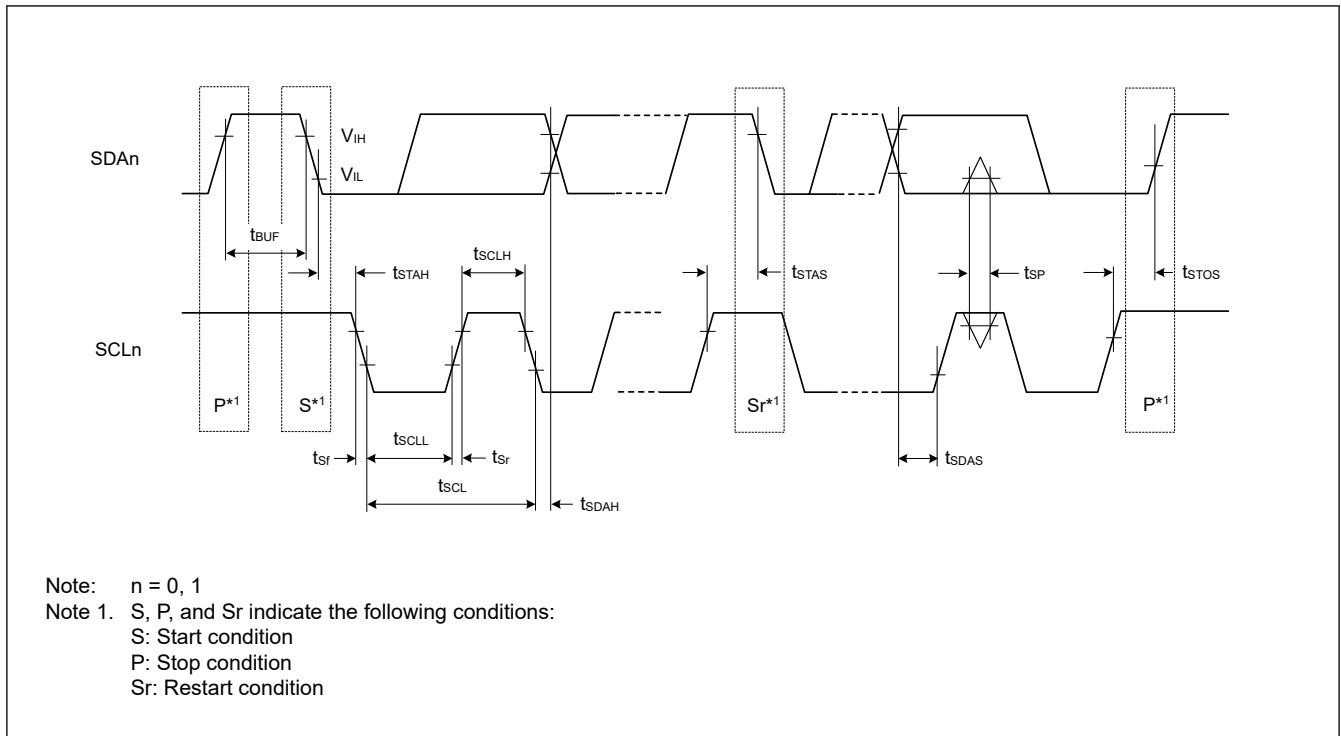

Figure 2.35 I²C bus interface input/output timing
| IIC (standard mode, SMBus) | SCL input cycle time                                               | $t_{SCL}$  | $6 (12) \times t_{IICcyc} + 1300$                   | —                         | ns   | Figure 2.35     |
| IIC (Fast mode)            | SCL input cycle time                                               | $t_{SCL}$  | $6 (12) \times t_{IICcyc} + 600$                    | —                         | ns   | Figure 2.35     |